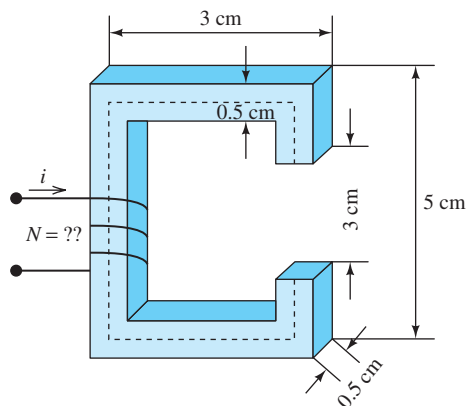

FIGURE P12.23 Magnetic circuit with air gap.
12.23 (H) It is desired that the gap in Figure P12.23 has a flux density of $B = 5$ T. Given $\mu_{\text{core}} = 2000$ and $i = 3$ A, find the required turns ratio, N .